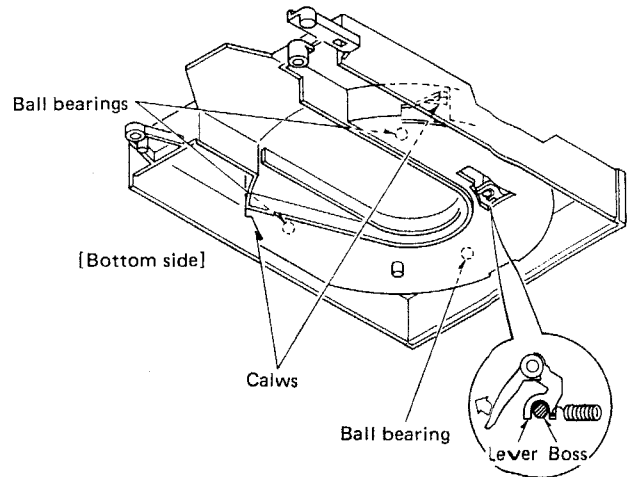

Fig. 12
- *It can be easily set by pushing the lever in the direction of the arrow. [Fig. 12]